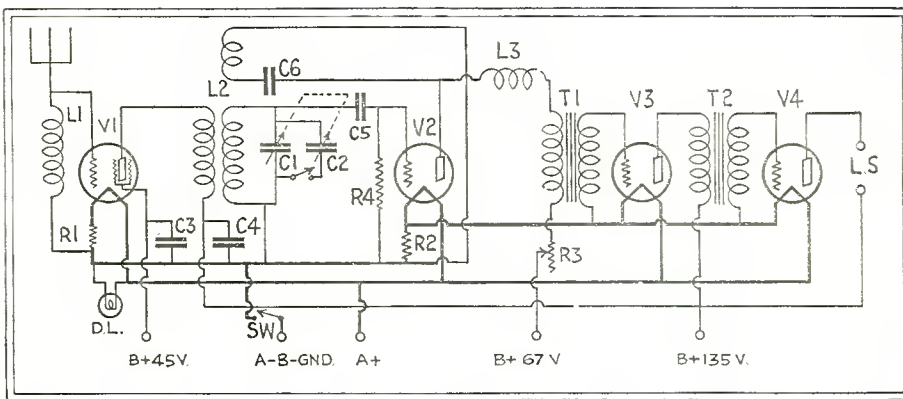

Fig. 1
Above, interior view of the automatic transmitter, showing the working parts. The 19-contact distributor (1) is revolved by the motor 9. The "SOS" signal disc, which may be replaced by others cut with conventional signals, is at 2; its auxiliary keying device is 3; the contact-drum at 4 makes connection with the ring 5 (shown at B2 in the diagram, Fig. 1) which carries the points of the compass in code. The ring B1, adjusted by the slides to give positions, is at 6; and 7 is the ring into which the call letters are cut. The relay 8 operates the regular radio transmitter to send out these signals.
A DRUM dial of new design is illustrated in Fig. 1. Back-lash is here prevented by the use of a flexible bronze cable which is carried around a number of pulleys and is fastened to the shaft. The method of assembly also permits the driving rod to be mounted directly below the window of the